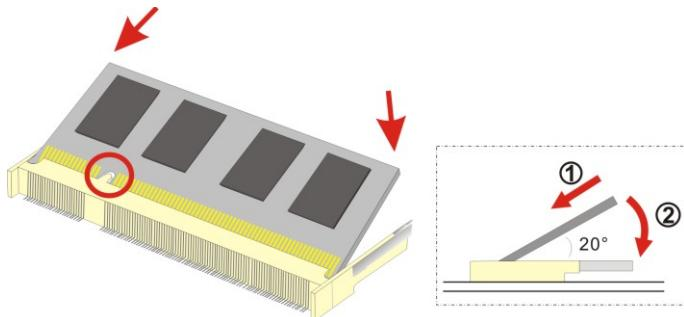

Figure 5-2: SO-DIMM Installation
Step 4: Align the new SO-DIMM with the socket. The SO-DIMM must be oriented in such a way that the notch in the middle of the SO-DIMM must be aligned with the plastic bridge in the socket (Figure 5-2).
Step 5: Insert the SO-DIMM. Push the SO-DIMM chip into the socket at an angle (Figure 5-2).
Step 6: Open the SO-DIMM socket arms. Gently pull the arms of the SO-DIMM socket out and push the rear of the SO-DIMM down (See Figure 5-2).